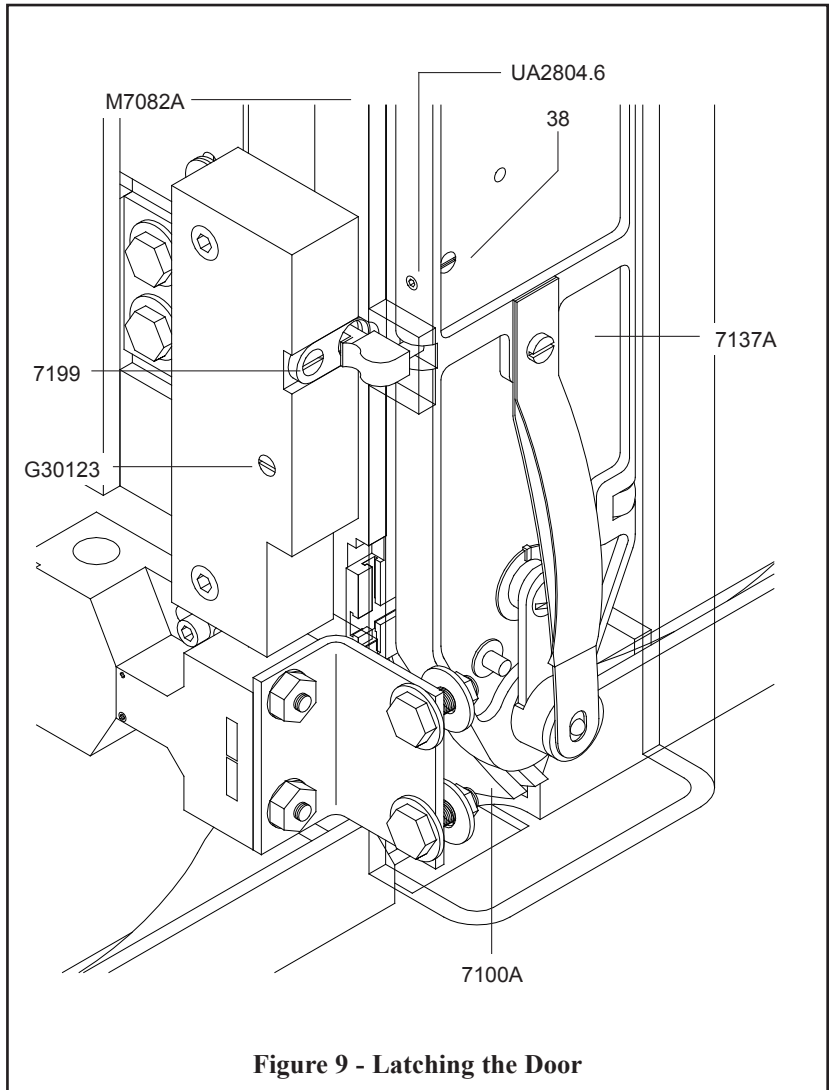

Figure 9 - Latching the Door
If the Door Assembly (7137A) is not properly balanced it rattles. To correct this, loosen the Set Screw (UA.2804.6) on the side of the Door and adjust the depth setting of the Screw (38) in the Door Assembly. Refer to **Figure 9** for reference to accurately balance the Door against the Face Plate Assemblies (M7083A and M7082A). When the Door no longer rattles, tight-